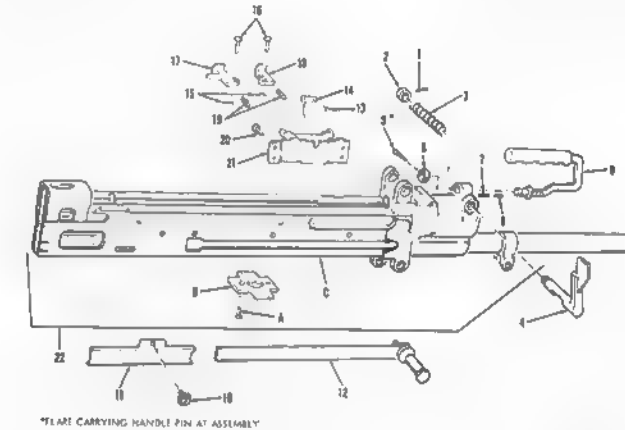

Figure 4-1. Machine gun XM60D—partially exploded view.
b. *Cleaning, Inspection, and Repair.* If receiver assembly (22, fig. 4-1) is unserviceable, the gun will be turned in for replacement.